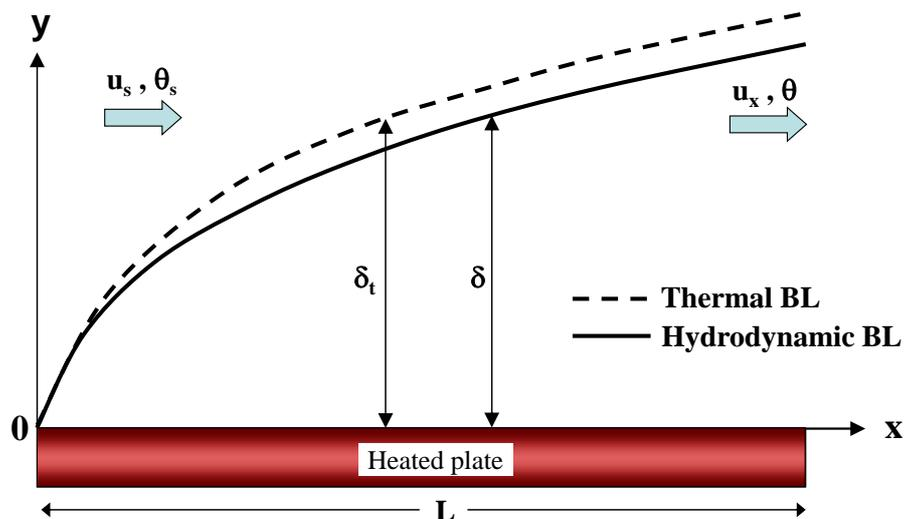

Figure Q1. Development of boundary layers when fluid flows above a flat plate.
1. Air at 20°C flows over a heated plate at a velocity of 10 m s⁻¹. The plate is 0.7 m long, 0.5 m wide and at a constant temperature of 110°C (Figure Q1).
- (c) Calculate the heat transfer coefficient, h , thickness of the hydrodynamic boundary layer, δ , and thickness of the thermal boundary layer (BL), δ_t , at the trailing edge of the plate. [6 marks]